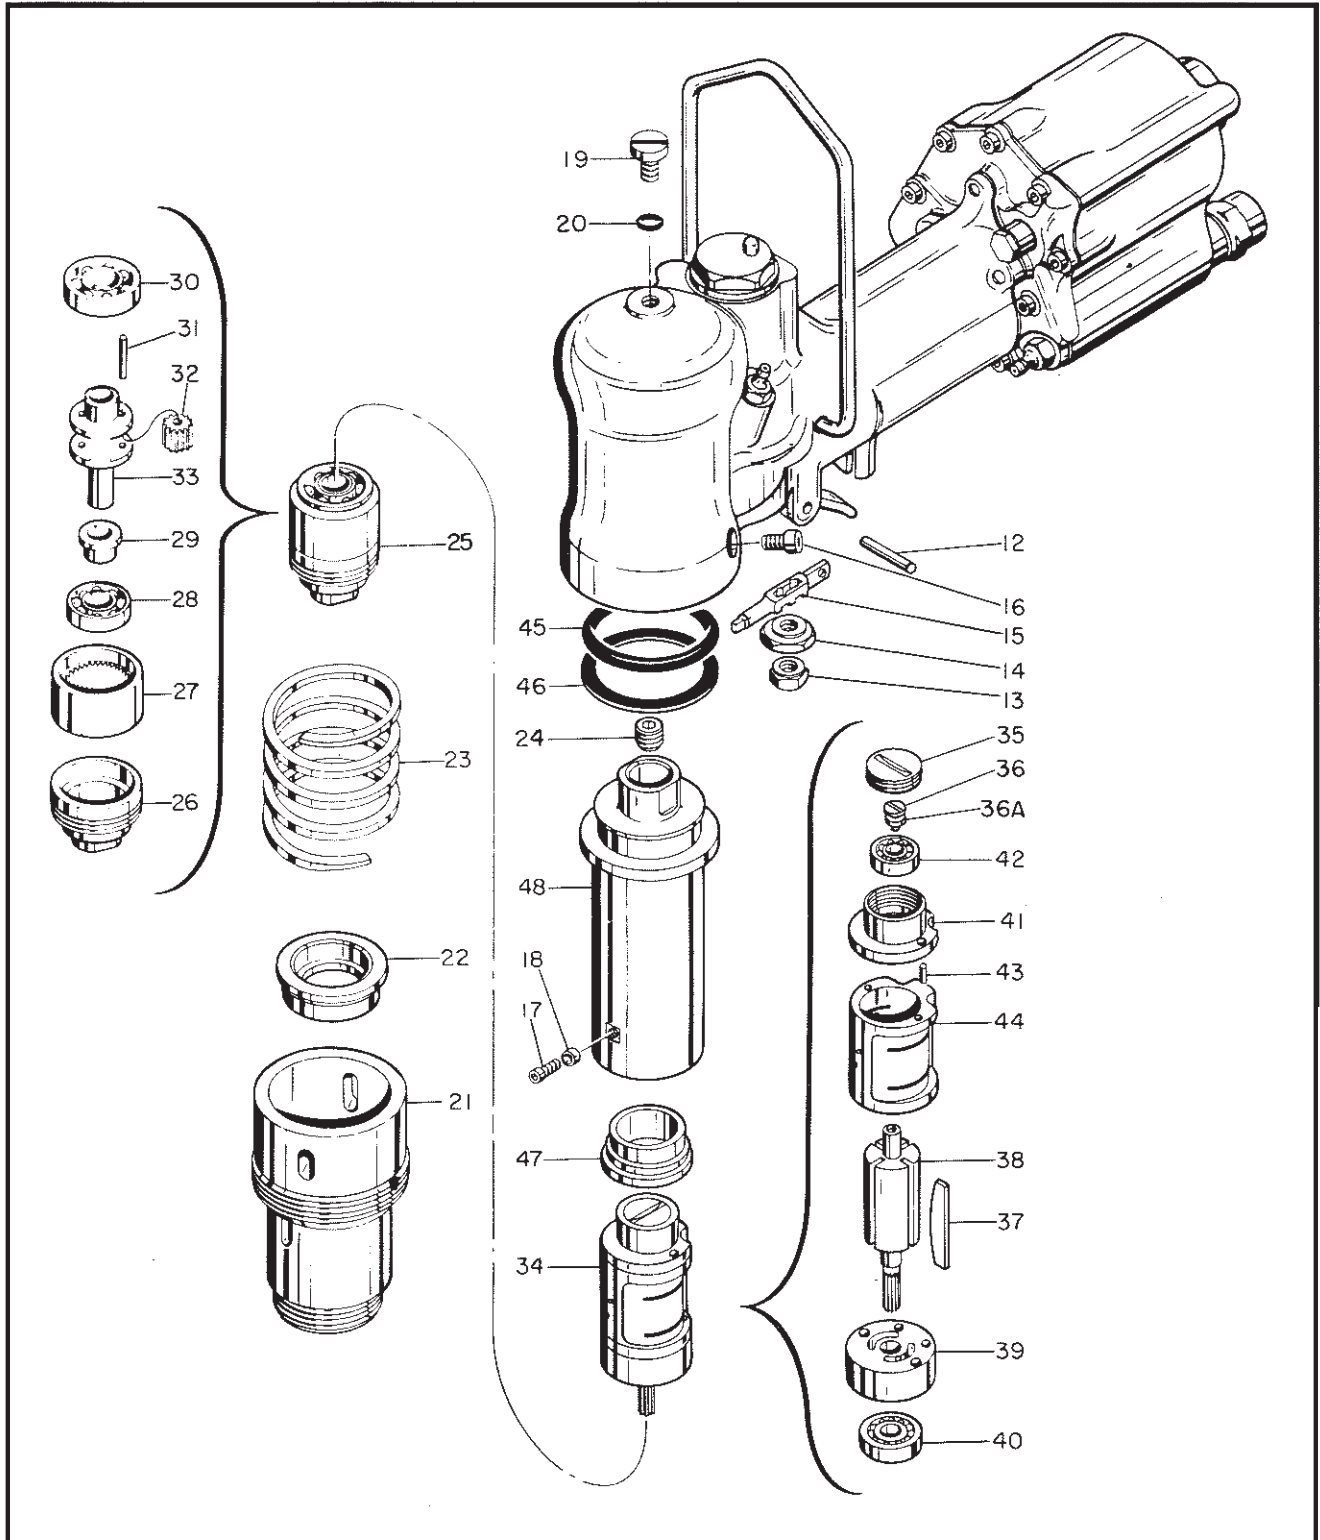

Figure 6. Air Motor and Drive Group
4. Air Motor and Drive Group. (See figure 6.)